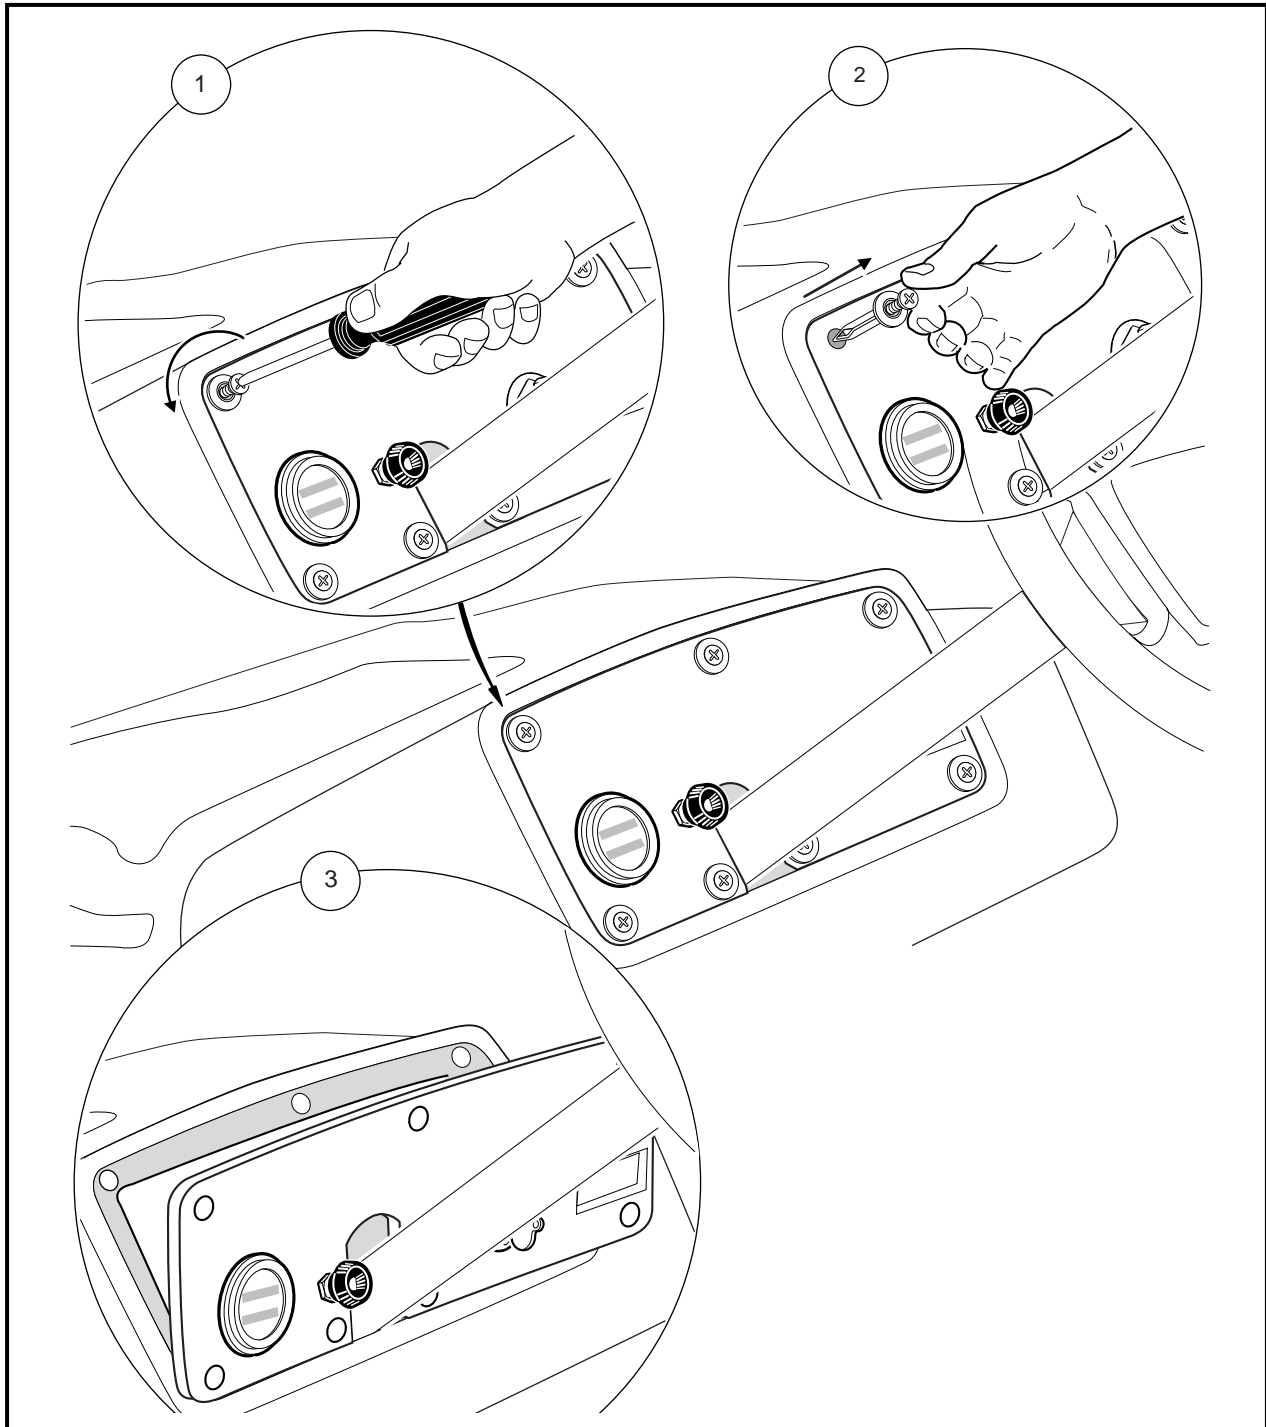

Figure 12-19 Center Dash Panel Removal
- 2.1. Loosen seven Tuflok screws, but do not remove screws completely, as shown in detail 1 (**Figure 12-19, Page 12-16**).